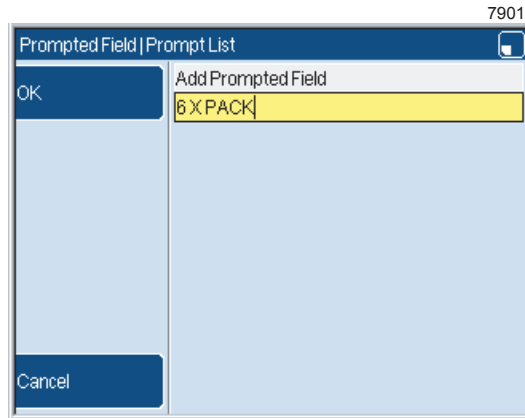

Figure 13. Prompt List page
- (a) Press the **Add** key and enter the item name "6 X PACK", as shown in Figure 13.